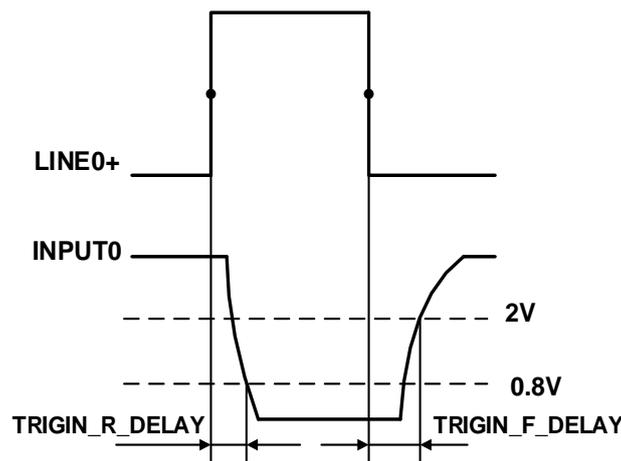

Figure 7-4 Parameter of opto-isolated input circuit
- Rising edge delay: $<50\mu\text{s}$ ($0^{\circ}\text{C}\sim 45^{\circ}\text{C}$), parameter description as shown in Figure 7-4
- Falling edge delay: $<50\mu\text{s}$ ($0^{\circ}\text{C}\sim 45^{\circ}\text{C}$), parameter description as shown in Figure 7-4
- Input rising time delay: $<2\mu\text{s}$ ($0^\circ\text{C}\sim 45^\circ\text{C}$), parameter description as shown in Figure 7-4
- Input falling time delay: $<2\mu\text{s}$ ($0^\circ\text{C}\sim 45^\circ\text{C}$), parameter description as shown in Figure 7-4
- Input rising time delay: $<2\mu\text{s}$ ($0^{\circ}\text{C}\sim 45^{\circ}\text{C}$), parameter description as shown in Figure 7-4
- Input falling time delay: $<2\mu\text{s}$ ($0^{\circ}\text{C}\sim 45^{\circ}\text{C}$), parameter description as shown in Figure 7-4